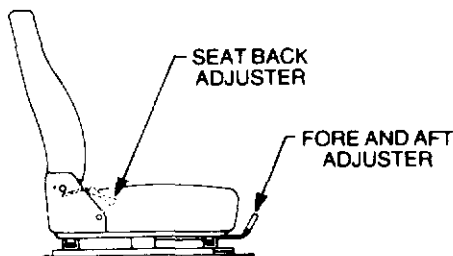

Figure 1-14 Seat adjustment
87. Cabin seating (Fig. 1-14)
The central cabin seat back can be tilted forward and utilized as a platform by the observer using the roof hatch, and the fore and aft movement can be adjusted as illustrated in Fig. 1-14.